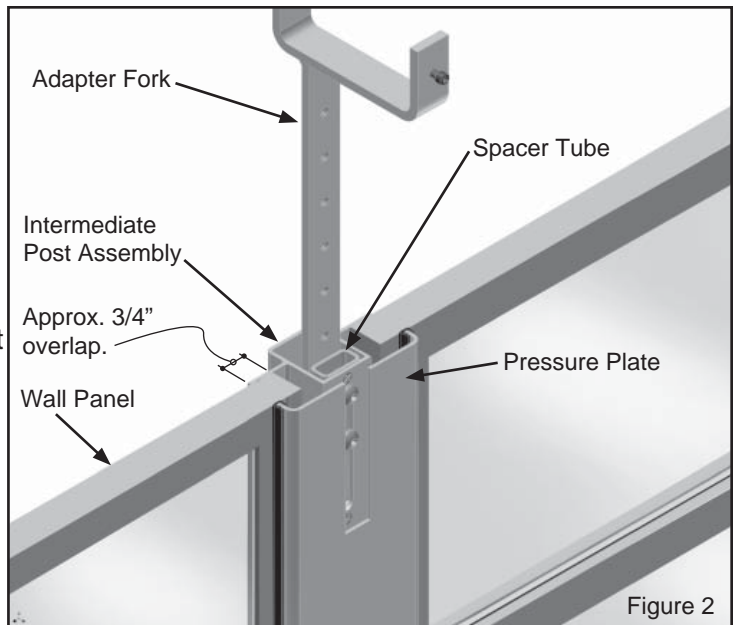

Figure 2
4. Remove the bolts and washers from the adapter forks and slide the vertical portion of the fork inside the top of the post, but outward of the spacer tube inside the post. See Figure 2.
8. First engage one side of the wall panel into the U-Channel, then pivot the opposite side toward the intermediate post until the inside face of the wall panel contacts the lip on the wall base. (Note: If the intermediate post is in the way, slide it out of the way to allow the panel to pivot back against the lip on the wall base.) Once the wall panel is in place, slide the intermediate post back toward the wall panel until the leg of the post overlaps the outside face of the wall panel by approximately $\frac{3}{4}$ ". Install the pressure plate to the intermediate post, but do not tighten the bolts so that the adjoining wall panel can be placed on the opposite side of the intermediate post. See Figure 2.